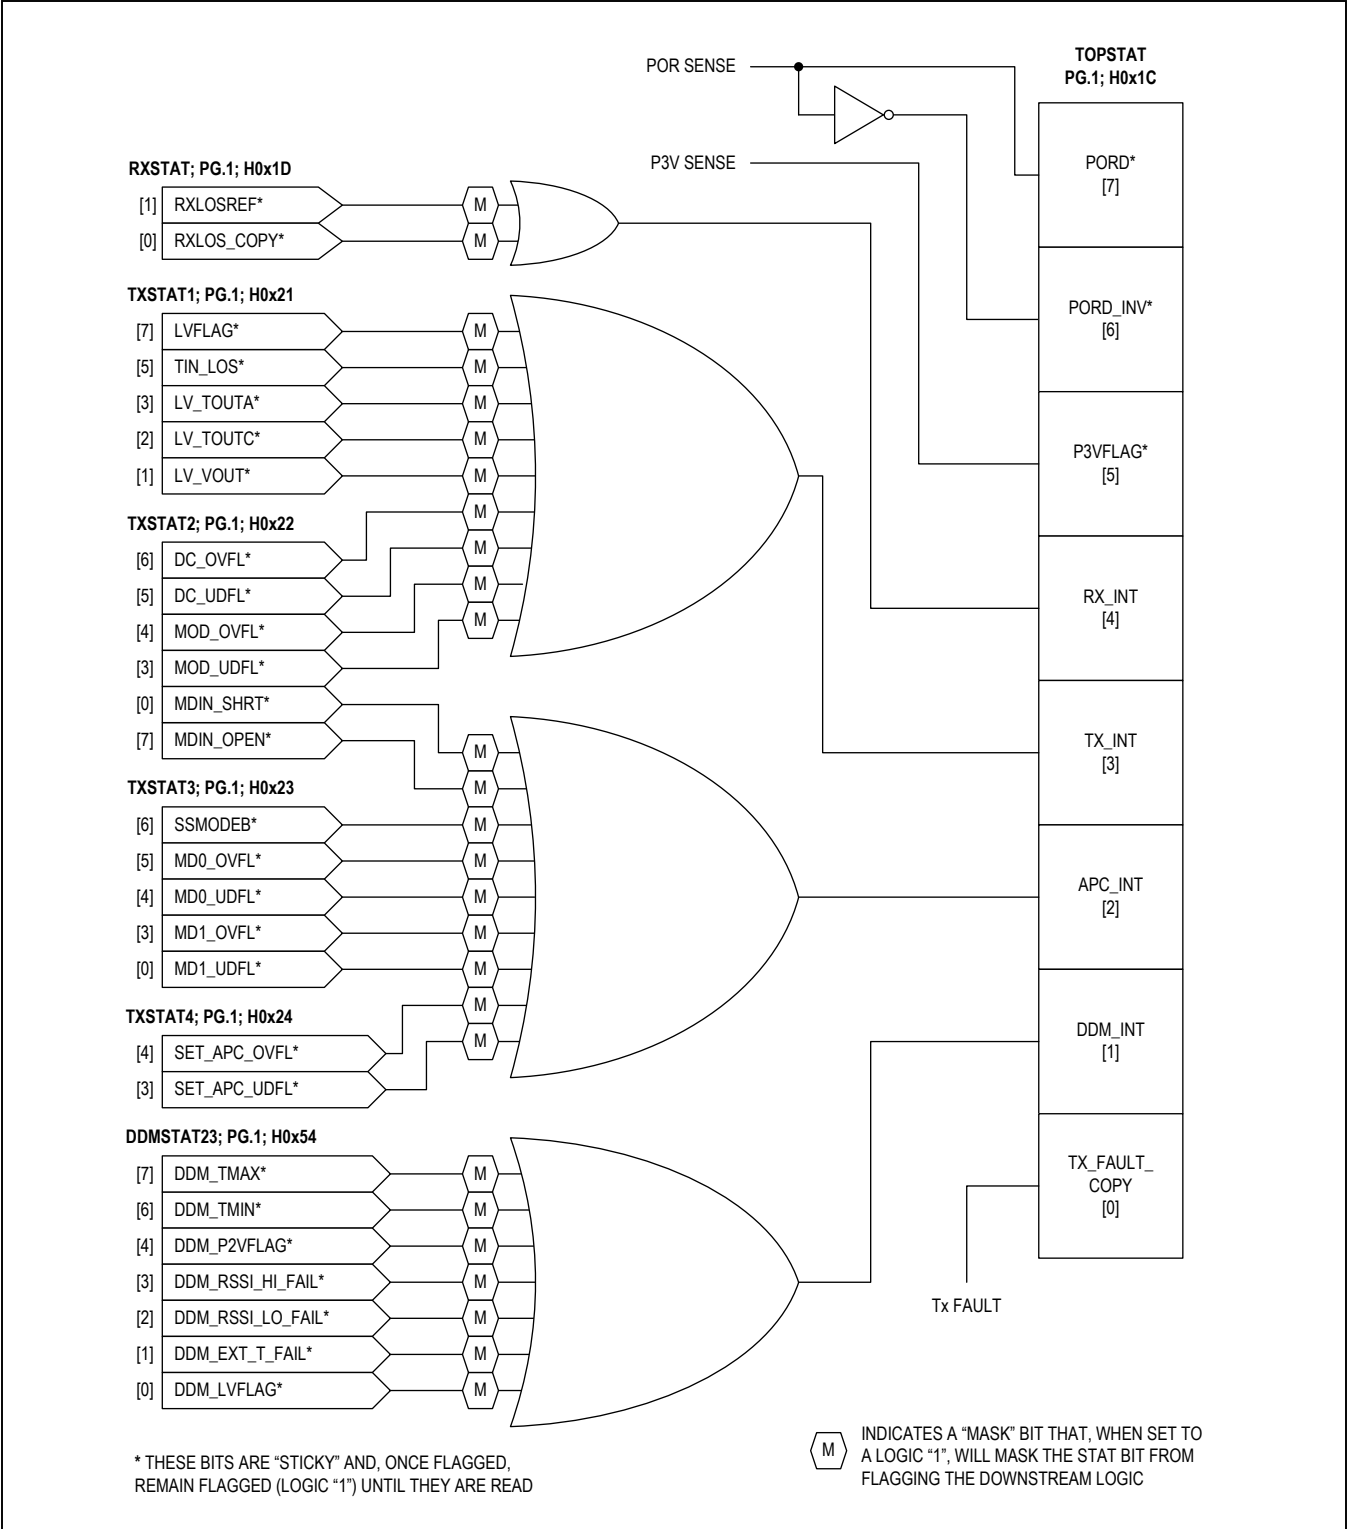

Figure 21. TOPSTAT Logic
Status registers RXSTAT, TXSTAT1, TXSTAT2, TXSTAT3, TXSTAT4, and DDMSTAT23 feed the TOPSTAT register along with signals Tx fault, P3V sense, and POR. TOPSTAT bits PORD and P3VFLAG will be set to “1” after power-up or a POR event. These bits are “sticky” therefore need to be read to be cleared. The TOPSTAT logic diagram is shown in Figure 21.
- When INTRPT asserts, read TOPSTAT to narrow down the flag source. The flagged TOPSTAT bit indicates the type of interrupt flagged (APC, DDM, etc...) and which "STAT" register(s) must be read to locate the source of the flag, see Figure 21.